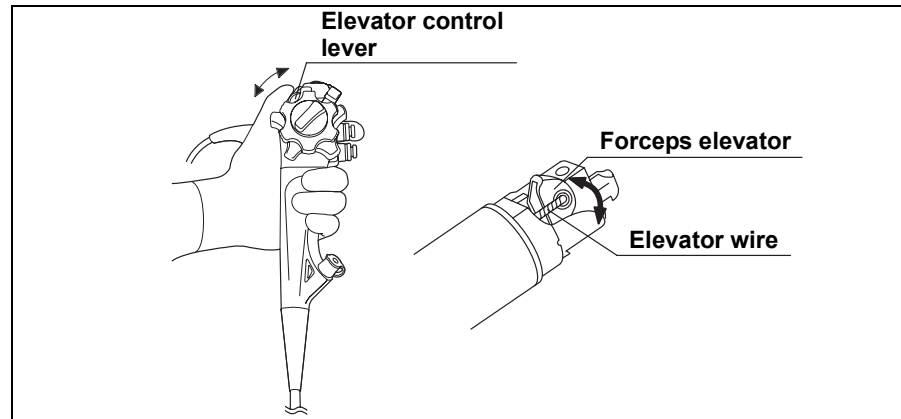

Figure 3.5
1. Move the elevator control lever slowly all the way in the opposite direction of the “◀U” direction. Visually confirm that the portion of the elevator wire extending from the distal end of the insertion tube is not broken or bent (see Figure 3.5).
2. While observing the forceps elevator at the distal end of the insertion tube, slowly move the elevator control lever all the way in the “◀U” direction. Confirm that the lever can be operated smoothly and that the forceps elevator is raised smoothly. Also confirm that the forceps elevator remains stationary when pushed from behind while holding the elevator control lever stationary (see Figure 3.5).
3. Move the elevator control lever slowly all the way in the opposite direction of the “◀U” direction. Confirm that the lever can be operated smoothly and that the forceps elevator is lowered smoothly (see Figure 3.5).